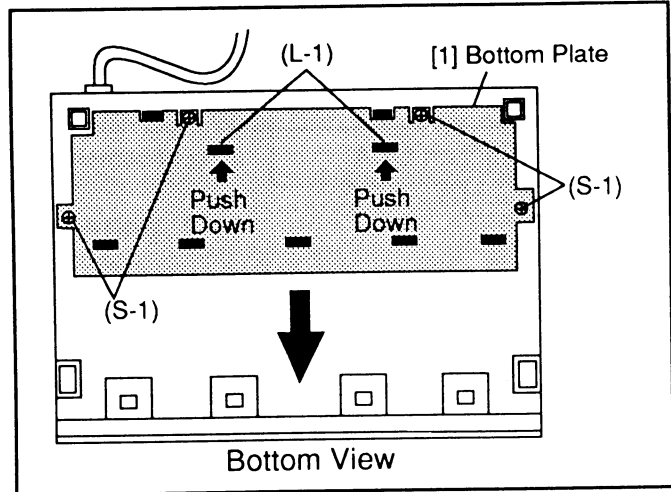

Fig. 1
- 1. Remove 4 Screws (S-1), and slide the Bottom Plate in the direction of arrow while pushing down 2 Locking Tabs (L-1). (Fig. 1)